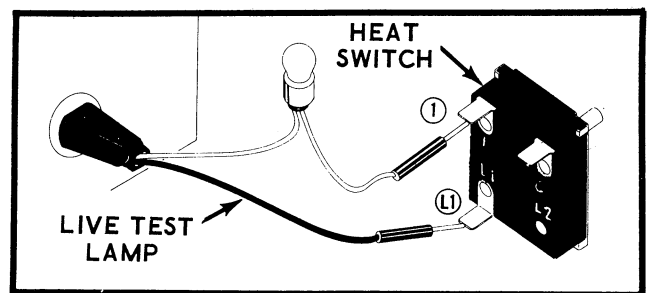

Figure 12G
HEAT SWITCH, Turn Type, Figure 12G.
4. With switch set on OFF position, place test probes on terminals L1 and 1, Figure 12G. Continuity should NOT exist. Set switch on HI position. Continuity should exist.